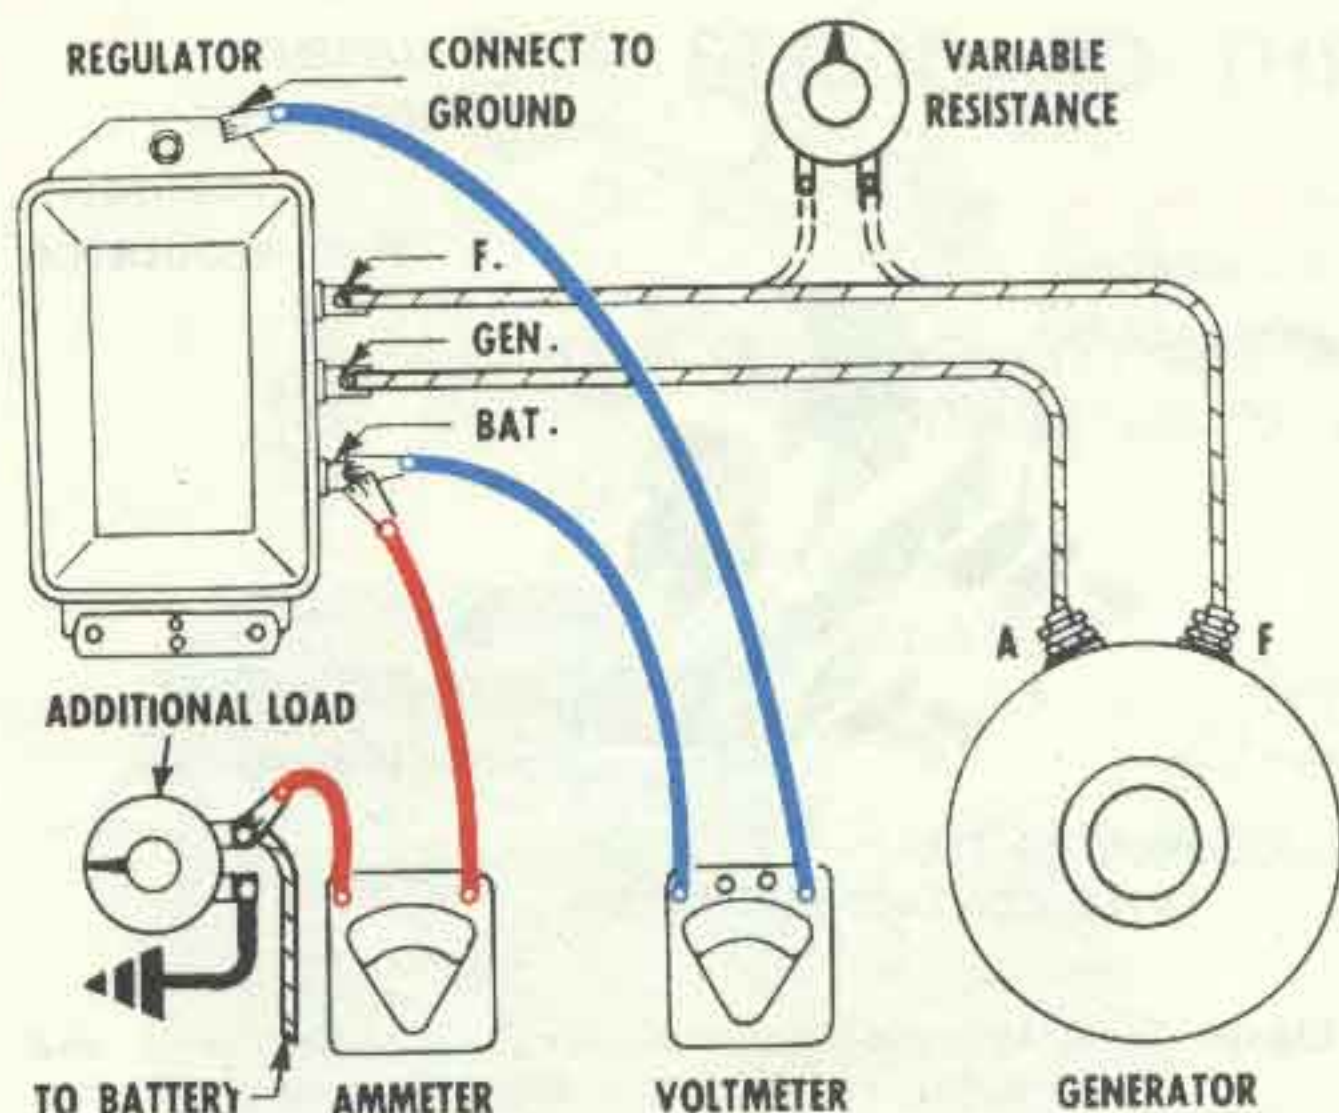

Figure 12—Connections for checking current regulator by load method.
1. Connect ammeter into charging circuit, as in Figure 12.